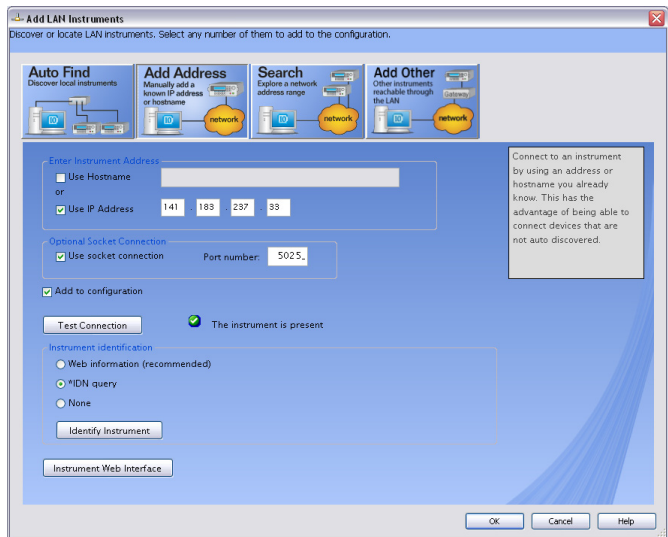

Figure 1-12 Add LAN Instruments window
- 3 On the Add LAN Instruments window (see Figure 1-12), click the **Add Address**.